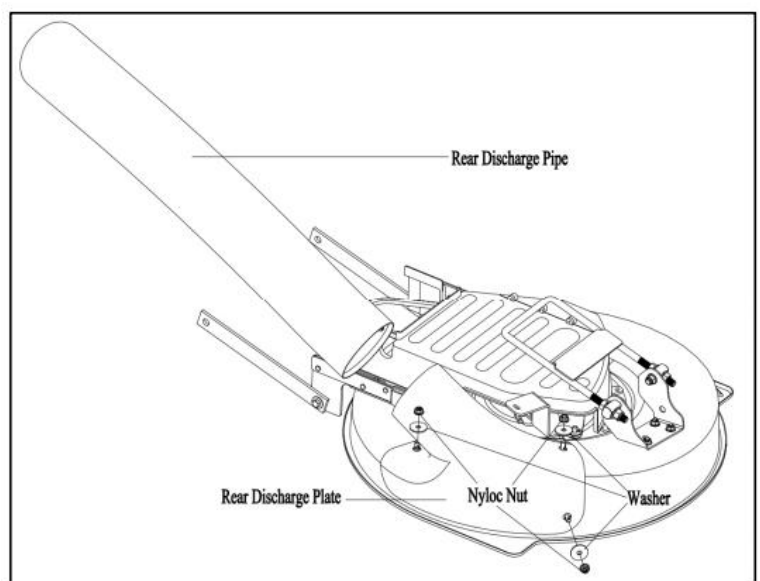

Figure 6
- 4) Assemble rear discharge pipe and rear discharge cover together(Figure 6).
- 5) Mount rear discharge pipe assembly on to blade disc(Figure 6).